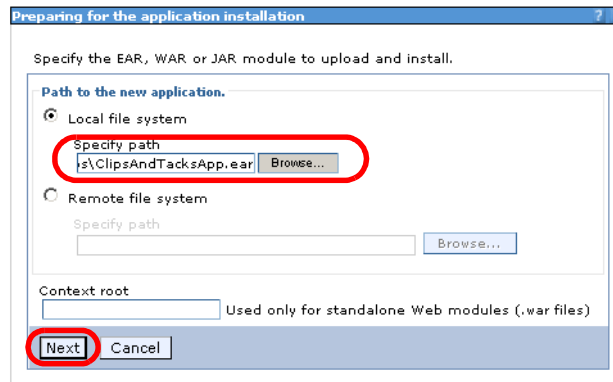

Figure 10-2 EAR installation: Location
- ▶ Click *Browse* to locate the EAR file (Figure 10-2):